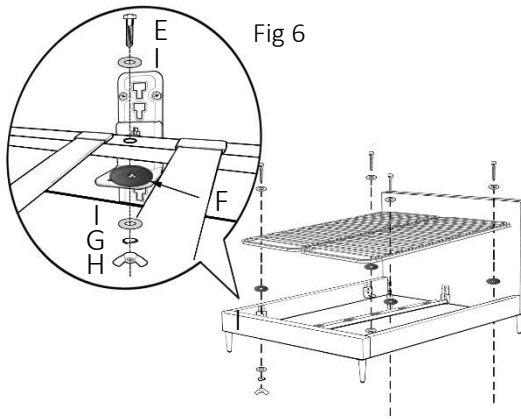

Fig 6
1. Place 1x rubber washer (F) onto each of the 4 brackets (A) positioned on the side rails and lower the assembled slatted base into the bed frame. Align holes on the steel bed base with the holes on brackets (A).
2. Insert bolt (E) with washer (I) from the top. Insert washers (G) and (I) and hand tighten with wing nut 'H' from the bottom (See Fig 6) **TIGHTEN SECURELY.**